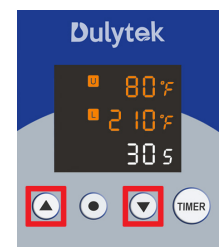

Fig. 4
4. Press Up **▲** or Down **▼** buttons to select the desired temperature (Fig. 4). The selected temperature is shown on the lower line **L** of the display.